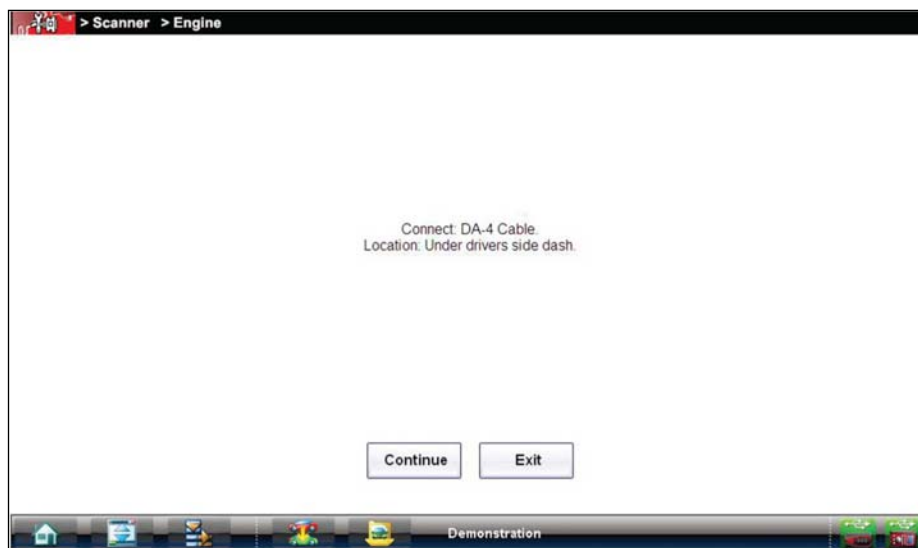

Figure 4-11 Vehicle connection data cable message
On-screen cable and adapter connection instructions are provided while using the Scanner and OBD-II/EOBD functions. The instructions may also include the location of the vehicle DLC (Figure 4-11). If required, additional connection information can be found in the appropriate vehicle communication software manual for the vehicle. Vehicle communication software manuals are available online, see the website information at the front of this manual
1. Follow the on-screen instructions for connecting to the vehicle (Figure 4-11).